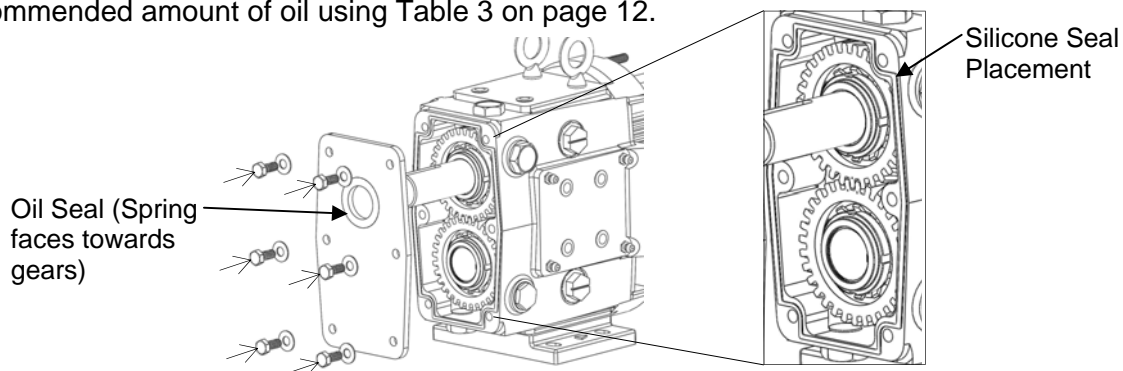

Figure 62: Installing Gear Casing Back Cover
10) Apply a light film of lubricant to the inside and outside diameters of the gear case cover oil seal. Using a press, install the oil seal into the back cover so that it is flush with the outside of the back cover and the spring is facing the gears. Apply a silicone sealant to the edges on the back of the gear case making sure there are no gaps. Slide the back cover onto the gear case, making sure that the shaft is centered on the oil seal, and secure it with the retaining bolts (Figure 62). It is important not to cut the oil seal on the shaft keyway; tape may be used to cover any sharp edges on the shaft. Install the oil plugs and fill the gear case with the recommended amount of oil using Table 3 on page 12.